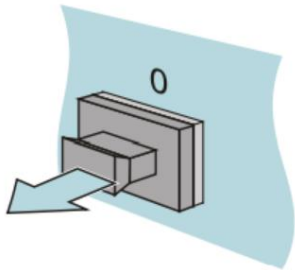

Figure 31: Removing the Protection Cap
- ☐ Remove the protection cap from the SFP transceiver. See Figure 31.